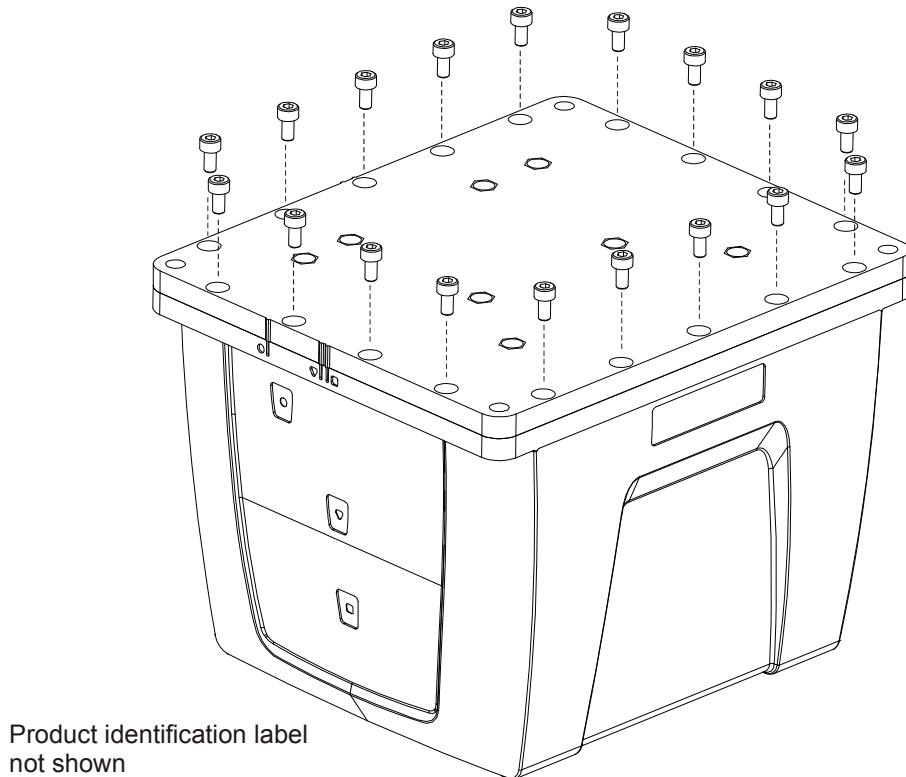

Figure 73: Screw Enclosure Base to Body
6. While squeezing and holding the enclosure body and base together to maintain tight contact, carefully turn the assembly over and place it on its top, as shown in *Figure 73*. Using a 3 mm hex bit, lightly fasten four equally spaced M4 screws to hold the parts together. Use thread-locking fluid on all screws. Install the remaining screws in similar fashion. Tighten all screws to 1.36-1.58 N·m (12-14 lb-in). Do not over-tighten.